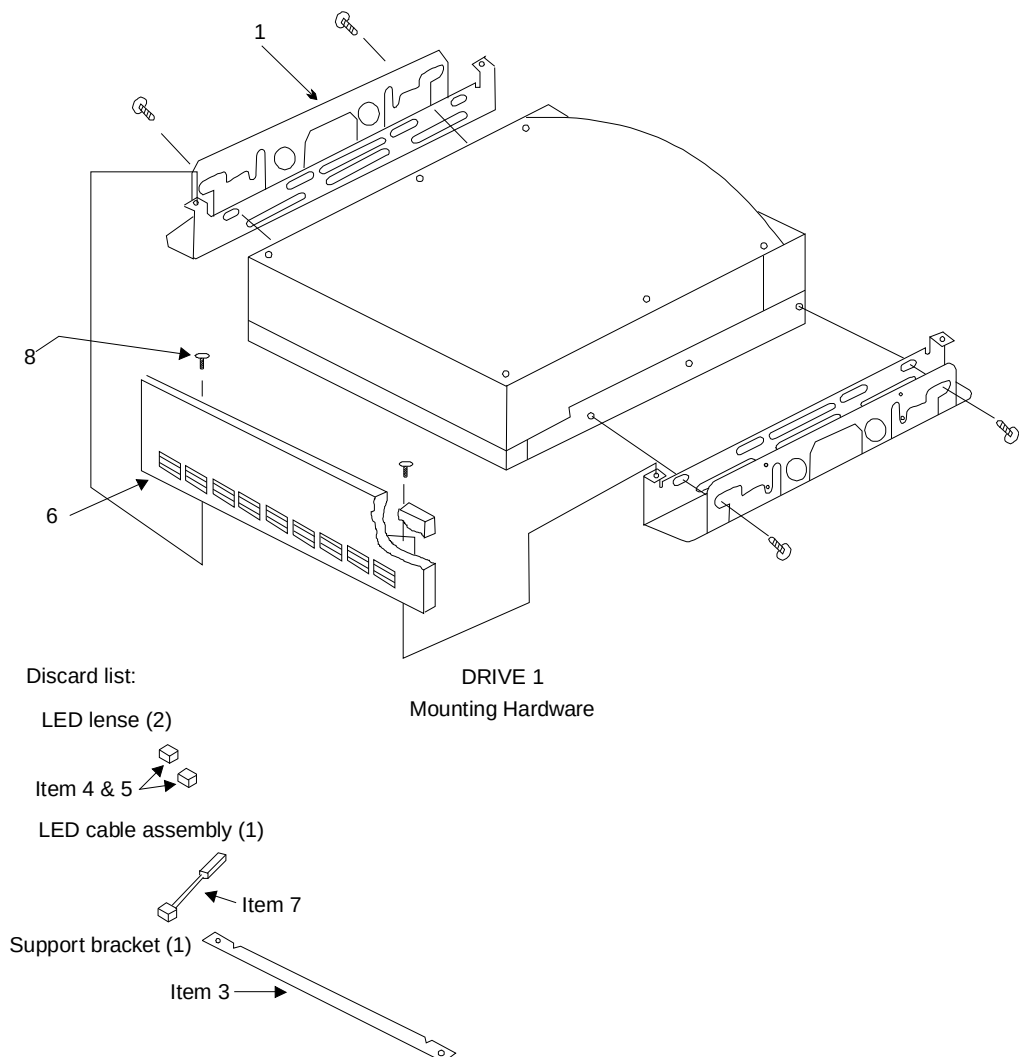

Figure 6-2. Hard Disk Drive Mounting Kit
8. Place the mounting rails parallel to each other with the smaller of the two flanges of the rails on the inside (Figure 6-2).